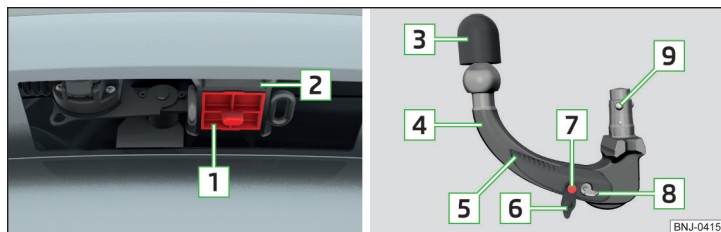

Fig. 232 Carrier for the towing device / tow bar
Support for the towing device and tow bar » Fig. 232
- › Remove the cover for the mounting recess **1** in a downwards direction » Fig. 232 on page 195.
- Place the cap **1** » Fig. 232 on page 195 onto the mounting recess.